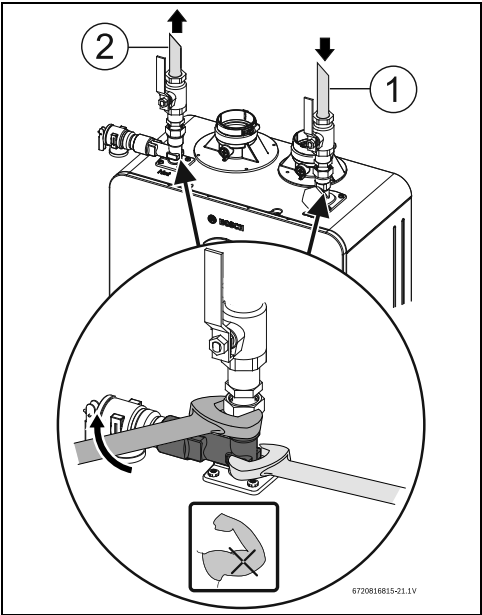

Fig. 26
- ▶ Tighten all water connections with the support of a wrench, see Fig. 26.